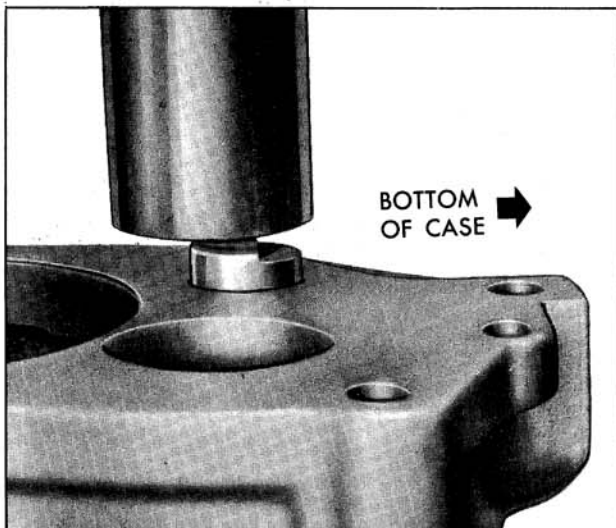

Fig. 7-73 Installing Countershaft
5. Align countergear with shaft in rear and hole in front of case and press countershaft into case (pushing assembly tool out front of case) until flat on shaft is flush with rear of case. Be sure thrust washers remain in place. (Fig. 7-73)